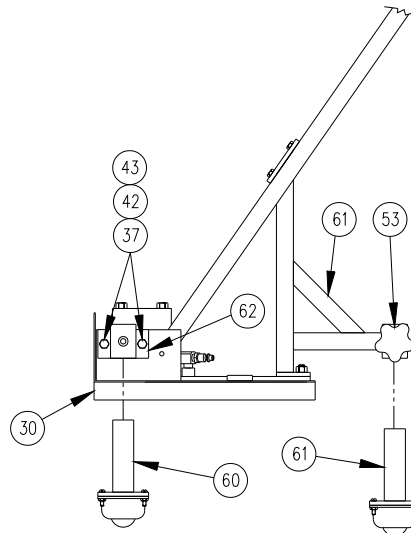

Figure 3-4
4. **Refer to figure 3-4.** Attach the outer ball transfer mount (item #62) to the sides of the long handle motor and guard assembly (item #30) using the provided hardware (items #37, #42 and #43) and slide side ball transfer mount assemblies (item #60) into outer ball transfer mounts (item #62). Slide rear ball transfer mount assembly (item #61) into rear ball transfer mount located on long handle brace (item #61). Screw the 2 hand knobs (item #53) into the outer ball transfer mounts (item #48). Screw the remaining hand knob (item #53) into the rear ball transfer mount located on the long handle brace (item #61). Adjust to desired height and fasten in place by tightening the hand knobs (item #53).